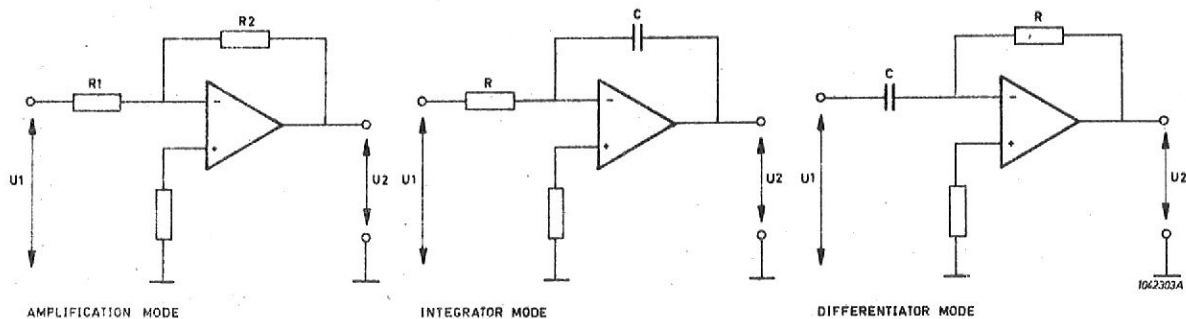

Fig. 5-5- Operational Amplifier
1.5 OPERATIONAL AMPLIFIER (figure 5-5)